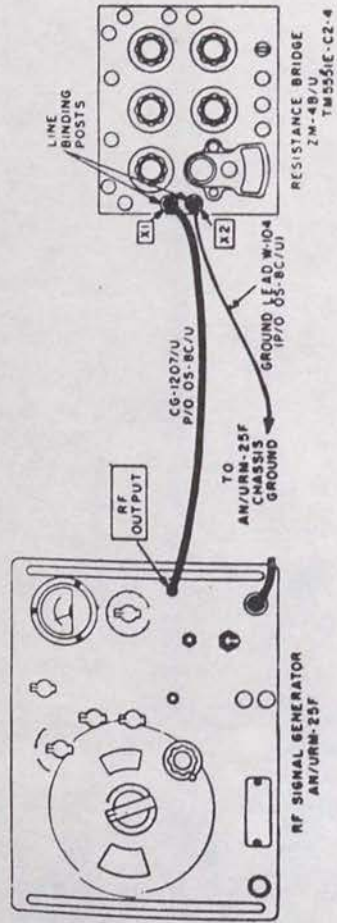

Figure 7-18. Attenuator test.
(fig. 7-18)
(1) Connect the equipment as indicated in figure 7-18.
(2) All power must be disconnected from the signal generator throughout this test.